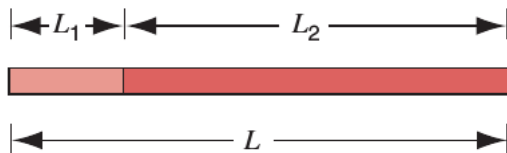

FIGURE 21-15. Exercise 28.
28. A composite bar of length $L = L_1 + L_2$ is made from a bar of material 1 and length L_1 attached to a bar of material 2 and length L_2 as shown in Fig. 21-15.